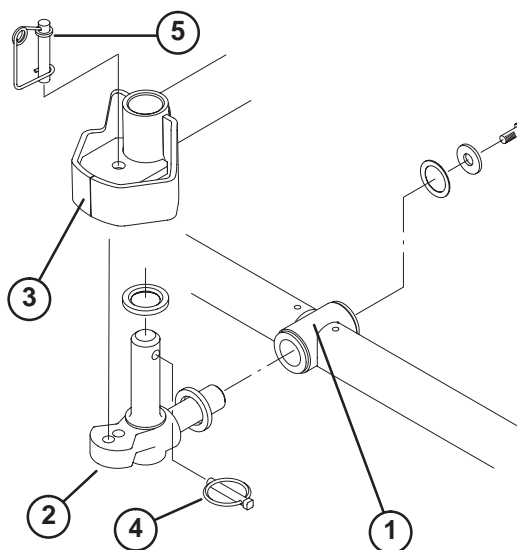

Figure 8
6. Insert a thrust washer onto horizontal shaft of pivot knuckle as shown in Figure 8.
7. Insert the horizontal shaft of the pivot knuckle into the mounting tube of the carrier frame (Fig. 8).
8. Secure pivot knuckle to carrier frame with a thrust washer, flat washer and a flange head capscrew (Fig. 8).
9. Insert a thrust washer onto vertical shaft of pivot knuckle (Fig. 8).
10. If removed, Insert the vertical shaft of the pivot knuckle into lift arm pivot hub (Fig. 8). Guide the pivot knuckle in place between the two rubber centering bumpers in the under side of the lift arm steering plate.
11. Insert the lynch pin into the cross hole on the pivot knuckle shaft (Fig. 8).
Note: If fixed cutting unit position is required, insert steering pin into pivot knuckle mounting hole (Fig. 8). Hook spring wire around bottom of steering pin.